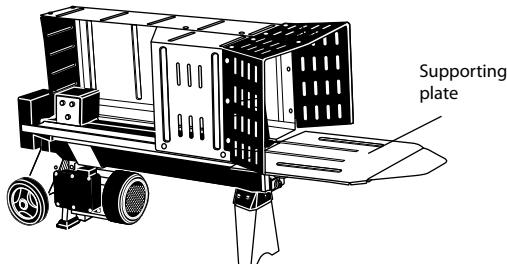

Fig. 3
5. Insert the supporting plate in front of the machine (Fig.3).